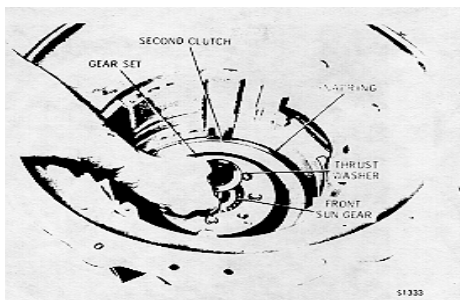

Fig. 5-15. Removing front sun gear thrust washer
(3) Lift carefully, straight upward, on the lifting bracket to remove the center support assembly.
(4) Refer to paragraph 6-10 for re-build of the center support assembly.
(5) Remove the thrust washer from the front planetary sun gear (fig. 5-15).